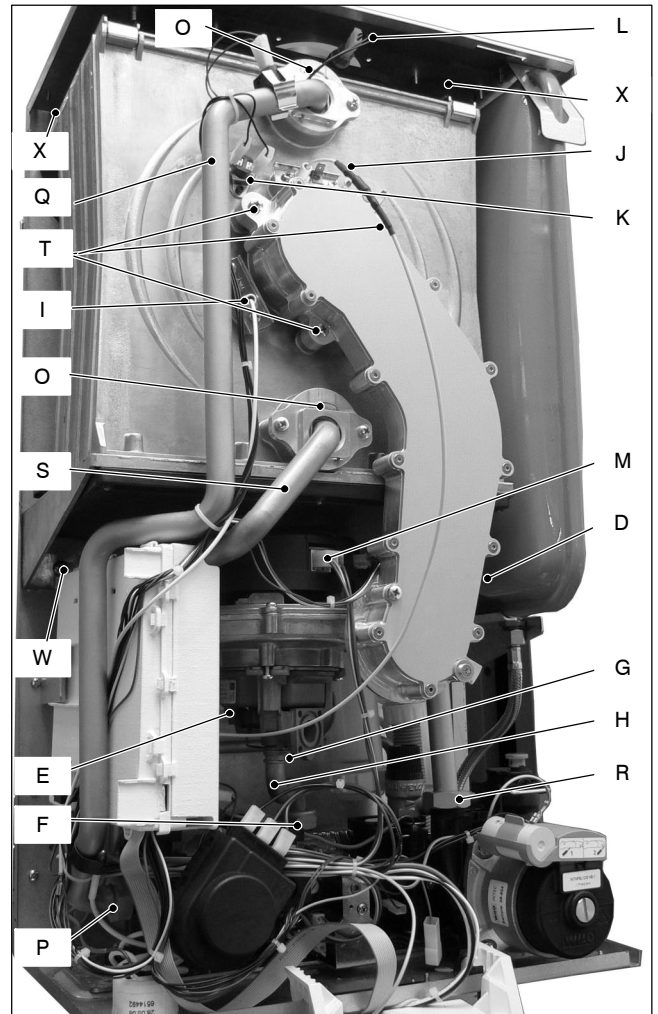
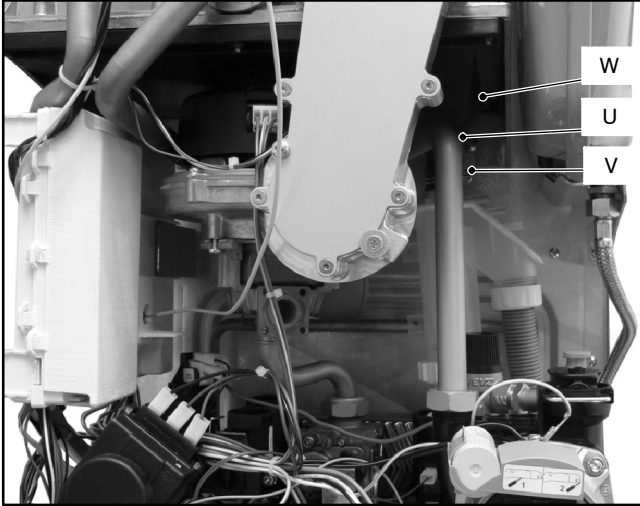

Fig. 5.2
Fig. 5.4
- 4 Disconnect the air manifold *D* (Fig. 5.2) by pulling it.
- 8 Unscrew the screws and remove the detection electrode connector *I* (Fig. 5.2)
- 16 Remove the forks *O* (Fig. 5.2).
- 21 Using pliers, remove the spring *U* moving it downwards and disconnect the rubber pipe *V* (Fig. 5.4).
- 22 Loosen the screws *W* (Fig. 5.4 – Fig. 5.2)
- 23 Unscrew the screws *X* (Fig. 5.2).
- 24 Remove the Condensing heat exchanger slightly move it upwards, turn it frontwards freeing it from the below screws *W* (Fig. 5.4 – Fig. 5.2) and then extract it forwards.
Ensure to tight the screws *T* – Fig. 5.2 firmly